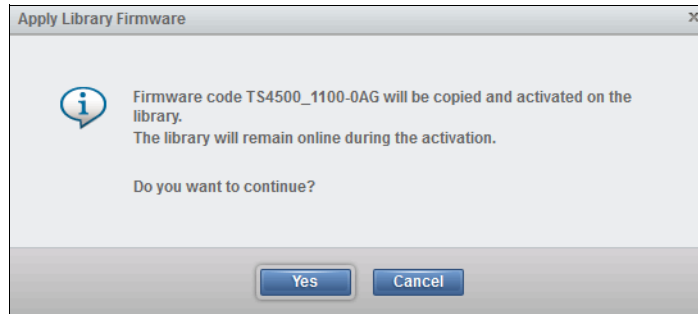

Figure 4-151 Firmware update confirmation
- The Apply Library Firmware window opens. Click **Yes** to continue, as shown in Figure 4-151.